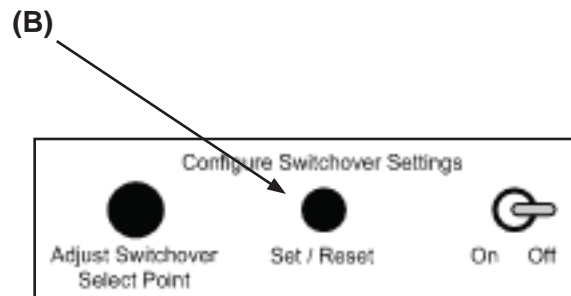

Fig. 4
- Press the "Set" button and release, Fig. 4 (B) to complete the initialization.**
- Press "Set" (**Fig. 4 (B)**) button firmly and release.